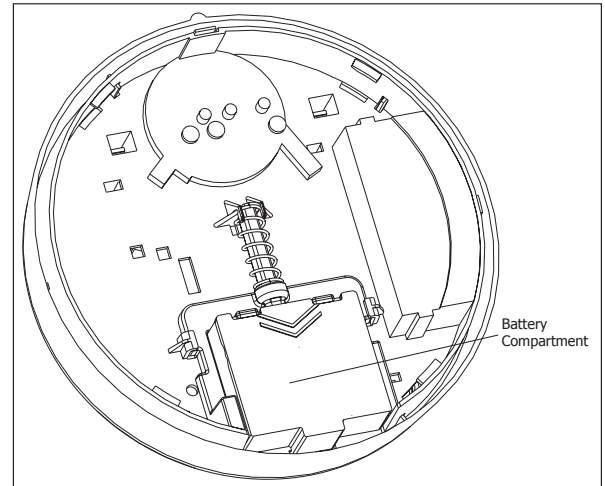

Figure 3: Battery Compartment
1. Slide the battery compartment cover away from the detector to unsnap it and lift it off. See Figure 3.
2. Slide the battery compartment cover away from the detector to unsnap it and lift it off. See Figure 3.